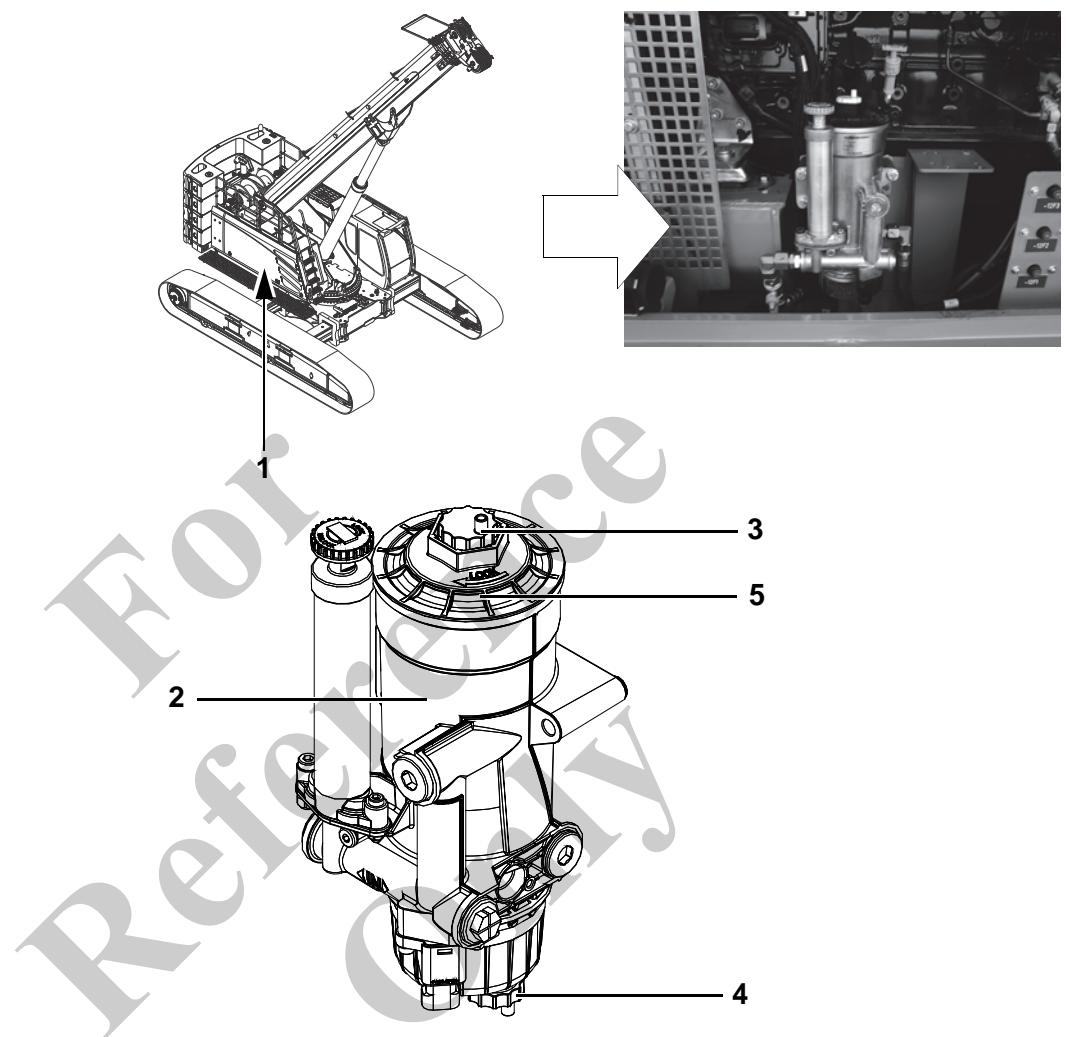

Fig. 14 Position and overview of the diesel prefilter
| 1 | Open the service door (1) in Fig. 14. |
| 2 | Place a suitable collecting vessel under the drain valve (4) in Fig. 14 drain valve (5). |
| 3 | Open the drain valve (4) Fig. 14. |
| 5 | Close the drain valve (4) in Fig. 14. |
| 6 | Close the service door (1) in Fig. 14. |
| 2 | Place a suitable collecting vessel under the drain valve (5) in Fig. 14 drain valve (5). |
- 6 | Unscrew the screw cap (5) in Fig. 14 from the housing (2) in Fig. 14 and pull out the filter element attached to it
8	Screw the screw cap (5) in Fig. 14 with the new filter element into the housing (2) in Fig. 14 to the stop. Ensure a tightening torque of 50 Nm.
10	Close the service door (1) in Fig. 14.